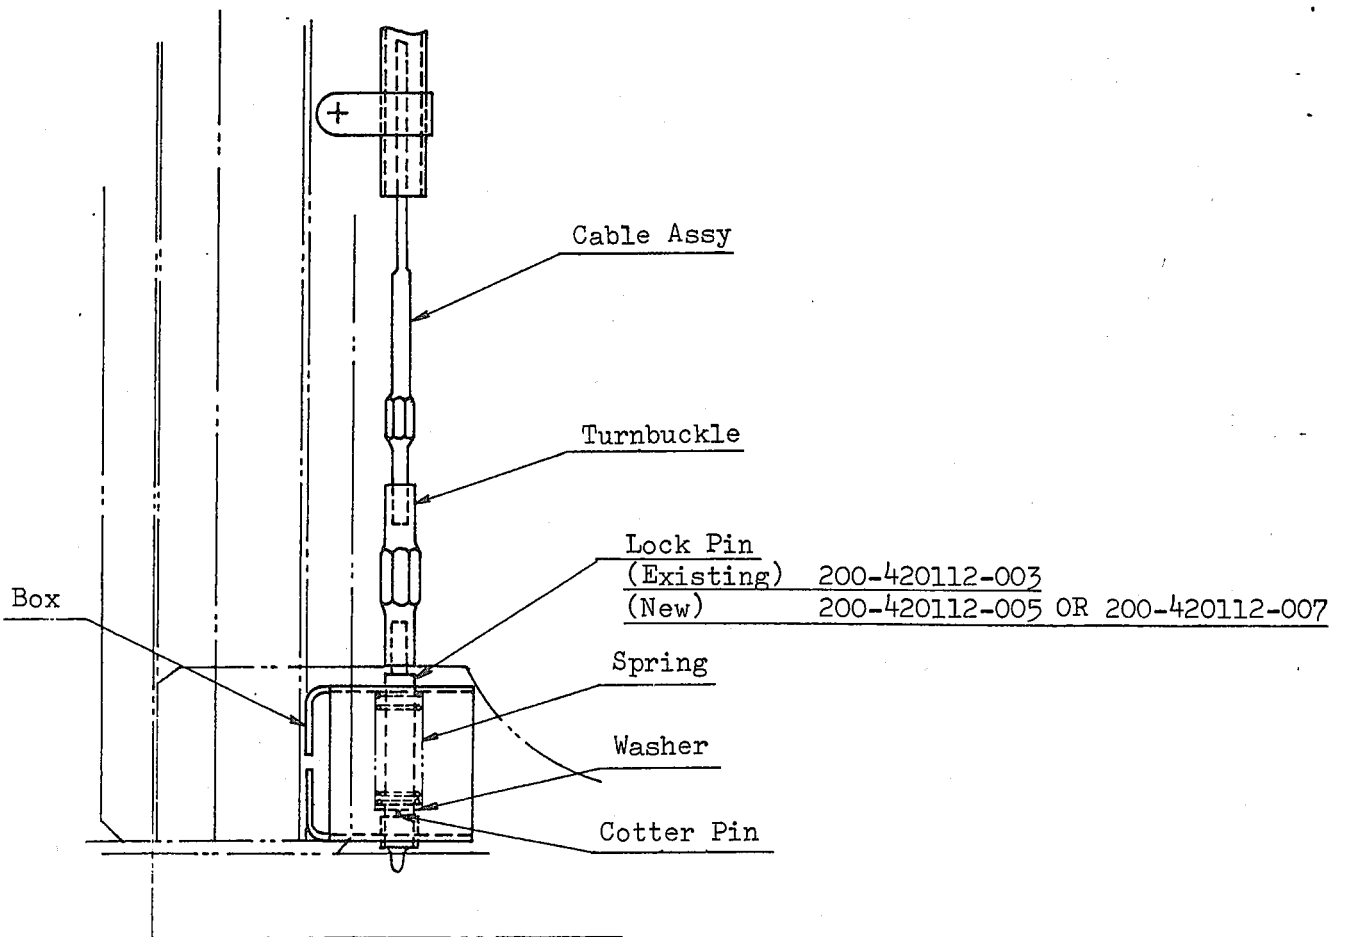

Figure 2 View A
- (1) Remove fwd canopy covers P/N 200-534105-007 and -008
- (2) Remove lock pin as follows : (Reference Figure 2)